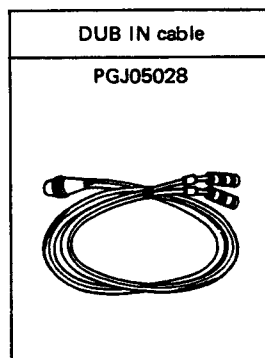

Fig. 2-1 Required special test equipment
1. The following test instruments and fixtures (see Fig. 2-1) are required for electrical adjustments. Attempts to adjust without them would entail inordinate time and would not yield the required precision and performance.